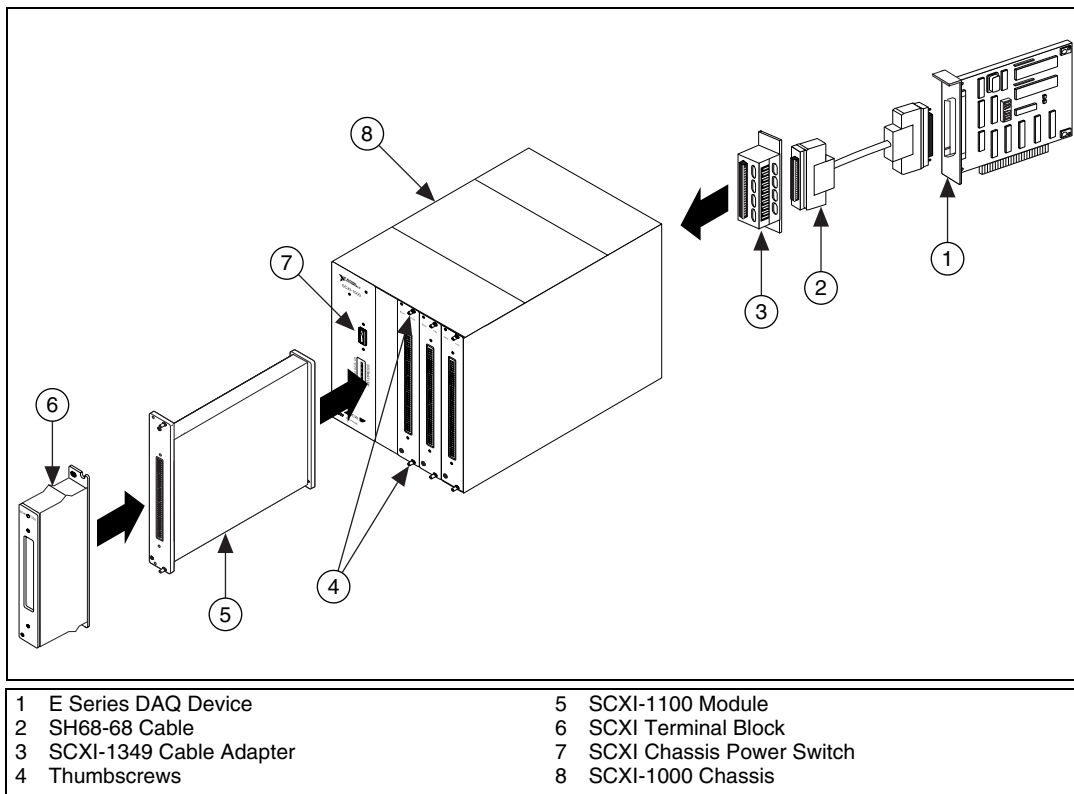

Figure 1. Connecting an SCXI Chassis to an E Series DAQ Device
2. Using an SCXI-1349 cable adapter, connect a 68-to-68-pin cable between the SCXI-1100 module and the E Series DAQ device installed in the host computer, as shown in Figure 1.